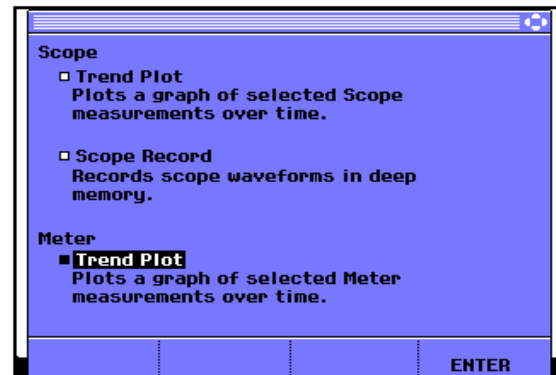

Figure 17. Recorder Main Menu
- 1  Open the RECORDER main menu. (See Figure 17.)